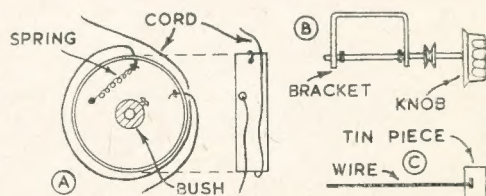

Fig. 2—Details of controls
The pointer is shown at (C) in Fig. 2 and consists of a stout, straight brass or tinned-copper wire soldered to a small piece of tin. The latter is bent double with pliers and nipped on to the cord. If a very accurate type of pointer is wanted, a narrow strip of celluloid with a hair-line scored down its centre can be used.